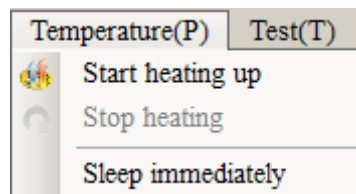

Fig 4-6
4.2.2 Temperature Menu: (Shown as Fig. 4-6)